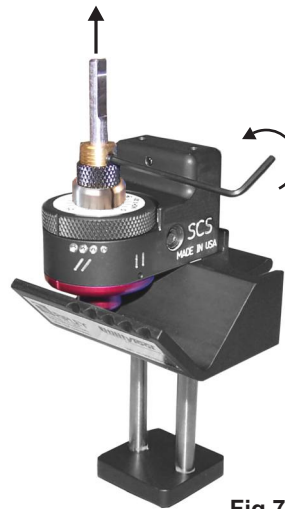

Fig.7
2. Loosen the blade retaining screw with a 1/16 hex wrench and remove blade from the collar. (Fig.7)